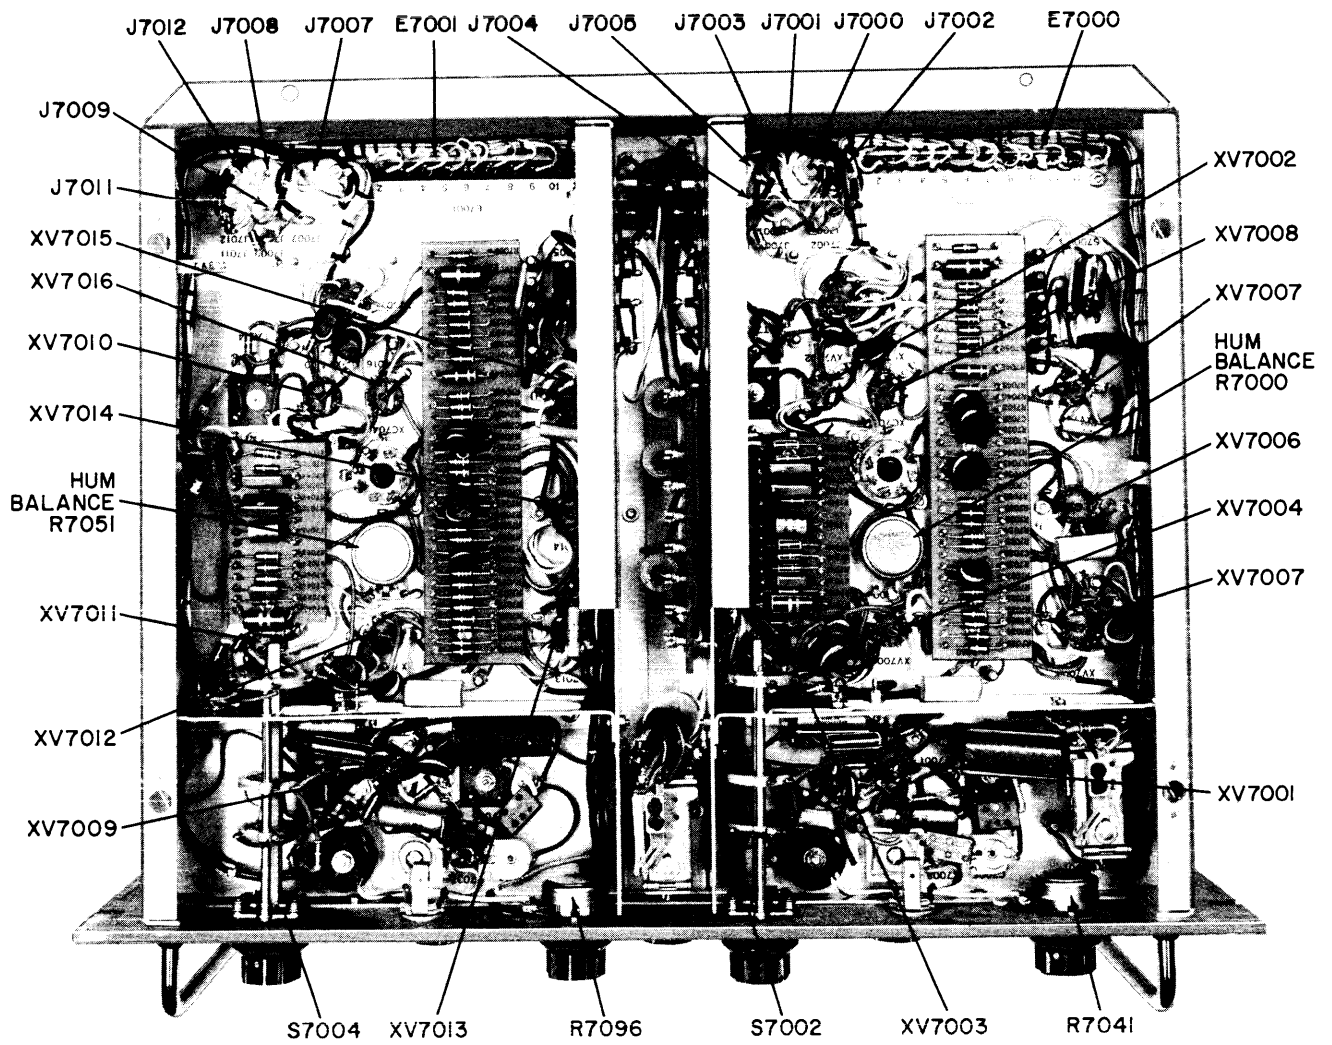

Figure 5-1. Model HFA-1, Bottom View
c. **TROUBLESHOOTING AIDS.** A voltage and resistance chart is given in table 5-5. Refer to this chart and figures 5-1 and 5-2 when troubleshooting.